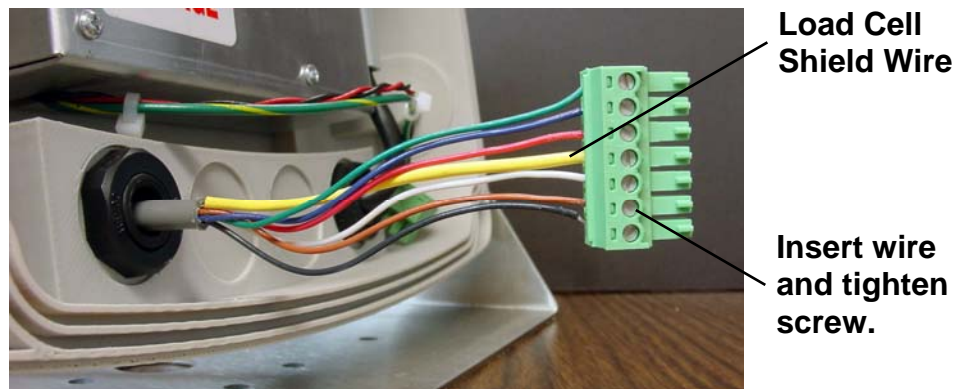

Figure No. 4
3.3.8. To terminate a wire, loosen the screws in the terminal block and then insert the wire into the terminal opening. Tighten the screw to secure the wire in place. See Figure No. 4.